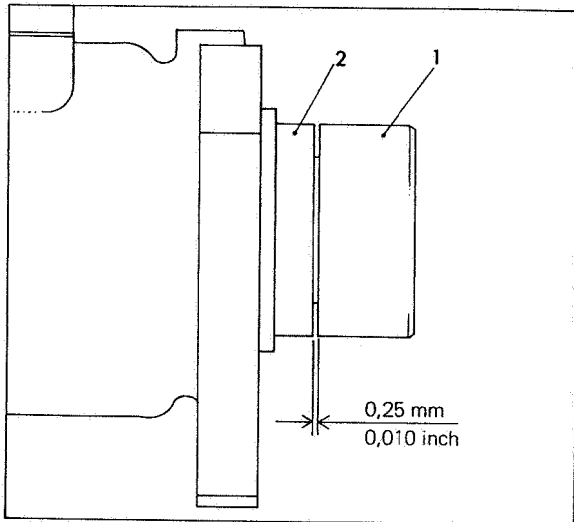

Fig 84 Checking drive shaft end float
Check the drive shaft end float. This should not exceed 0,25 mm (0,010 in) measured between the rear face of the hub (1) and the pump body (2) as indicated in Fig 84. If this dimension is exceeded, the weight retainer or pump body must be renewed and the end float re-checked.